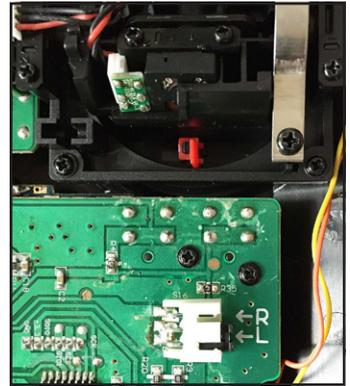

Fig.3
4. Set the jumper on the S16 connector : R is for Mode 1, L is for Mode 2 ( See fig.3);